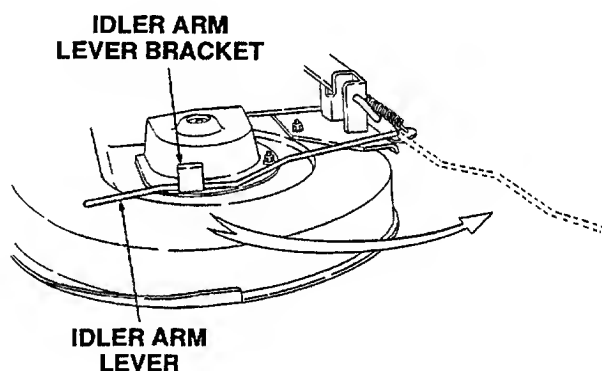

Figure 56
9. Disengage the deck idler arm lever from its stop bracket and release the spring tension by rotating the lever out and rearward (Refer to Figure 56).